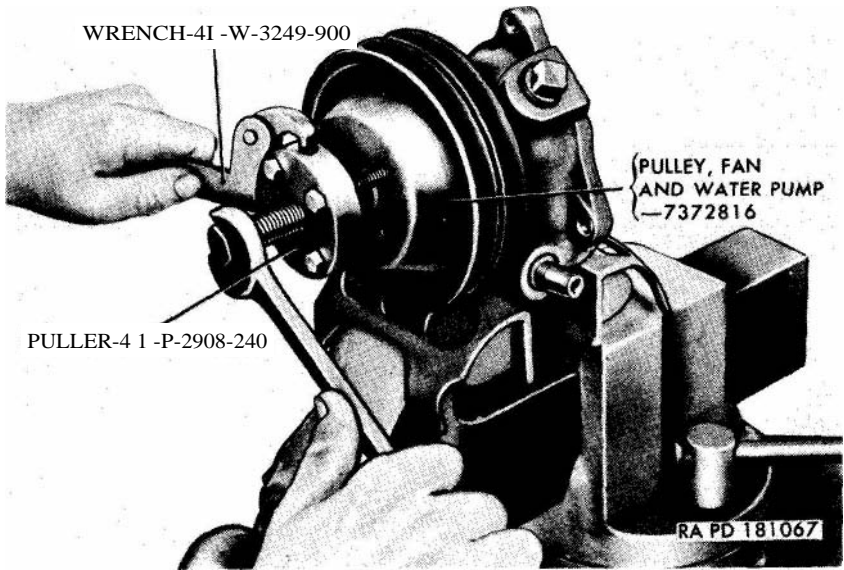

Figure 56. Removing fan and water pump pulley using puller—41-P-2908-240.
- d. Turn the assembly over and clamp the vise jaws on the body of the pump. Pull the fan and the water pump pulley from the end of the water pump shaft assembly, using puller 41-P-2908-240 and wrench 41-W-3248-900 (fig. 56).